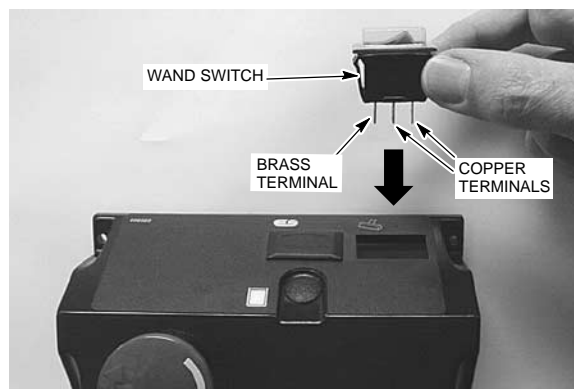

Fig. 4
8. Remove accessory console from main control console. Do not disconnect any wiring. Remove switch plug and install wand pump switch as shown (Fig. 4)